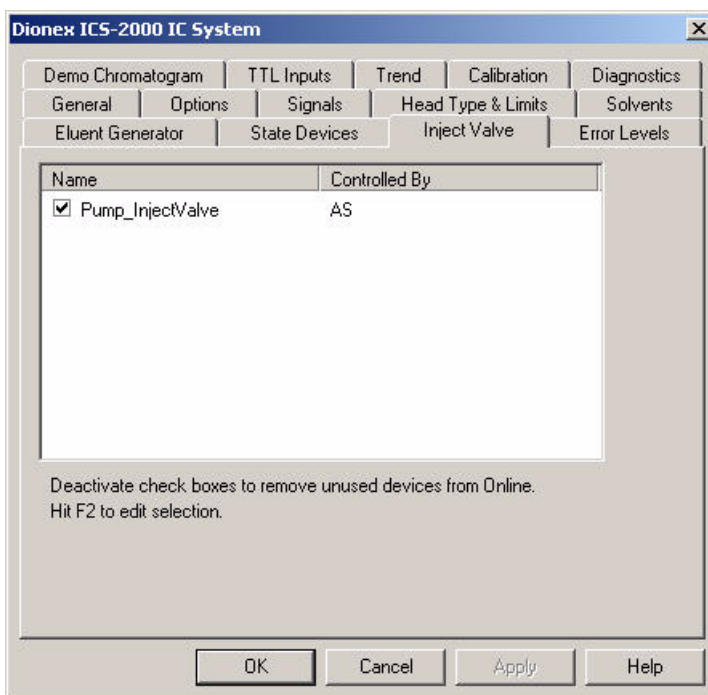

Figure B-107. ICS-2000 Inject Valve Server Configuration Properties
- d. Verify that the **Pump\_InjectValve** check box is selected and that **AS** is listed in the **Controlled By** column (see Figure B-107).